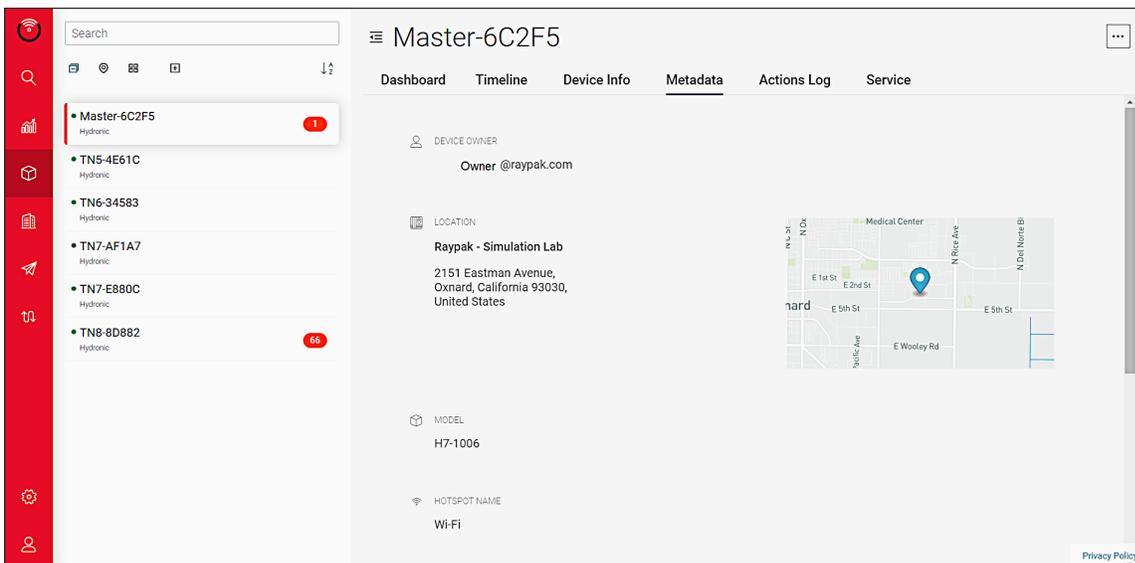

Figure 62. Metadata Selected
2. The Metadata menu will display. See **Figure 62**.